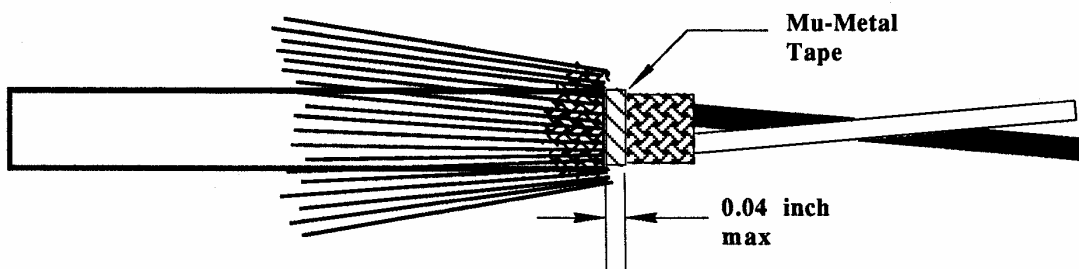

Figure 5-8. Mu-Metal Tape Preparation: Twinaxial Cable with Mu-Metal Tape
6. If Mu-metal tape is present, trim it as shown in Figure 5-8